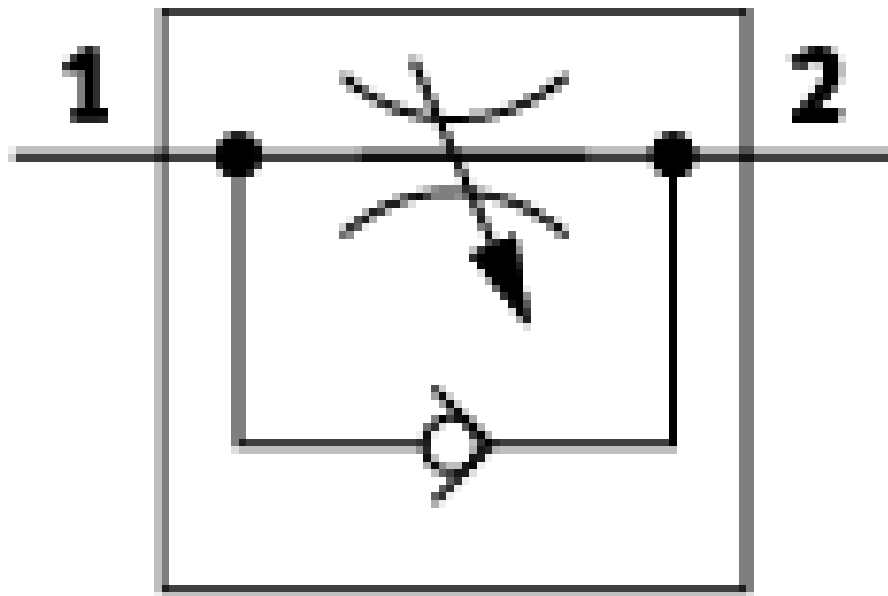

Figure 2.20: An electro-pneumatic circuit for a single cylinder extend-and-retract sequence (A+ A-).
**2. Example Circuit: Cylinder Extension and Retraction (A+ A-)** Let's analyze the circuit shown in Figure 2.20. The goal of this circuit is simple: when an operator presses a start button, a double-acting cylinder should extend fully. When it reaches the end of its stroke, it should automatically retract.
- **S1:** A normally open (NO) pushbutton, our "Start" button.
- **LS2:** A normally closed (NC) limit switch. Its purpose is to stop the sequence.
- **LS1:** A normally open (NO) limit switch, which will be actuated when the cylinder is fully extended.